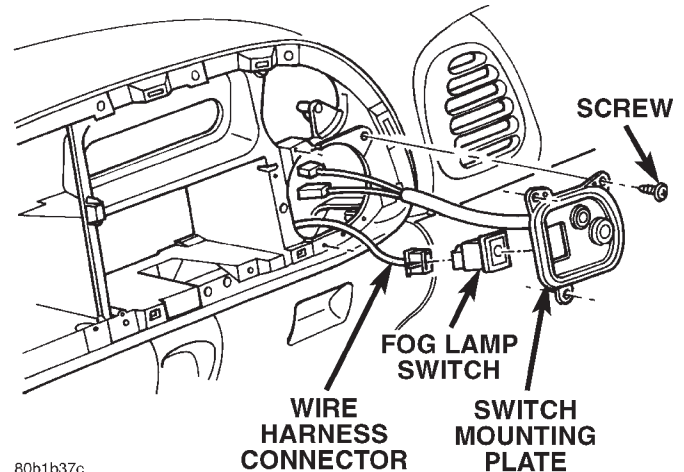

Fig. 11 Fog Lamp Switch Remove/Install
- (1) Disconnect and isolate the battery negative cable.
- (2) Remove the cluster bezel from the instrument panel. See Cluster Bezel in the Removal and Installation section of this group for the procedures.
- (3) Remove the three screws that secure the switch mounting plate to the instrument panel (Fig. 11).